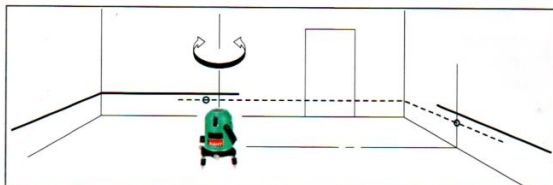

Fig. 7
- 1) Place the unit on the floor of an indoor corner at the point of 3 to 5 m from the one wall and 1 m from the another one. (See the Fig. 7)